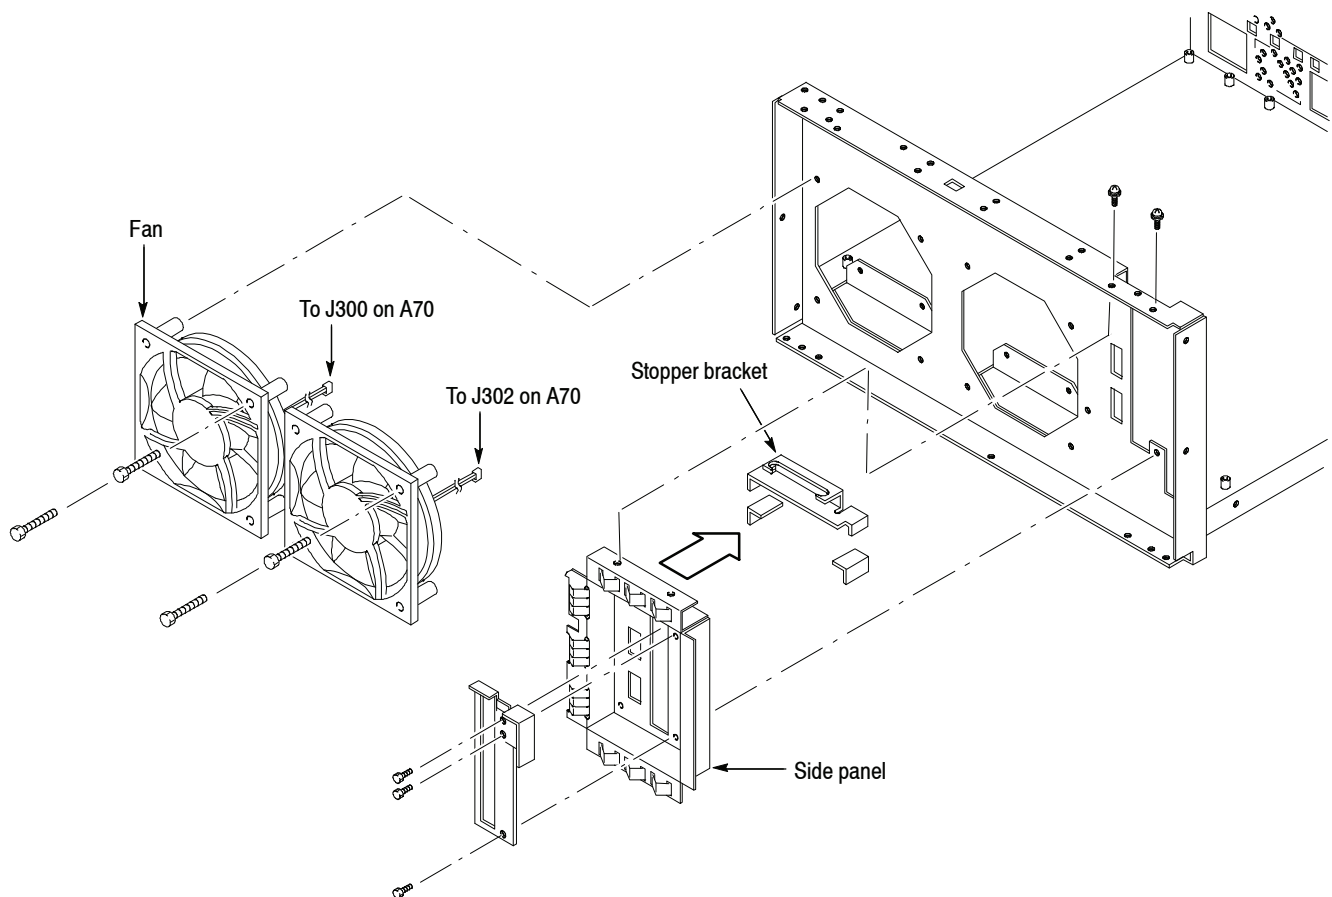

Figure 5-31: Fan and side panel removal
3. *Remove the fan:* See Figure 5-31.
4. *Remove the side panel assembly:* See Figure 5-31.